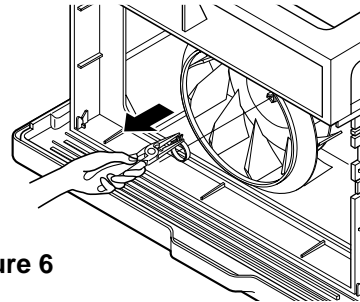

Figure 6
8. Remove the clamp which secures the turbo fan with plier. (See Fig. 6)